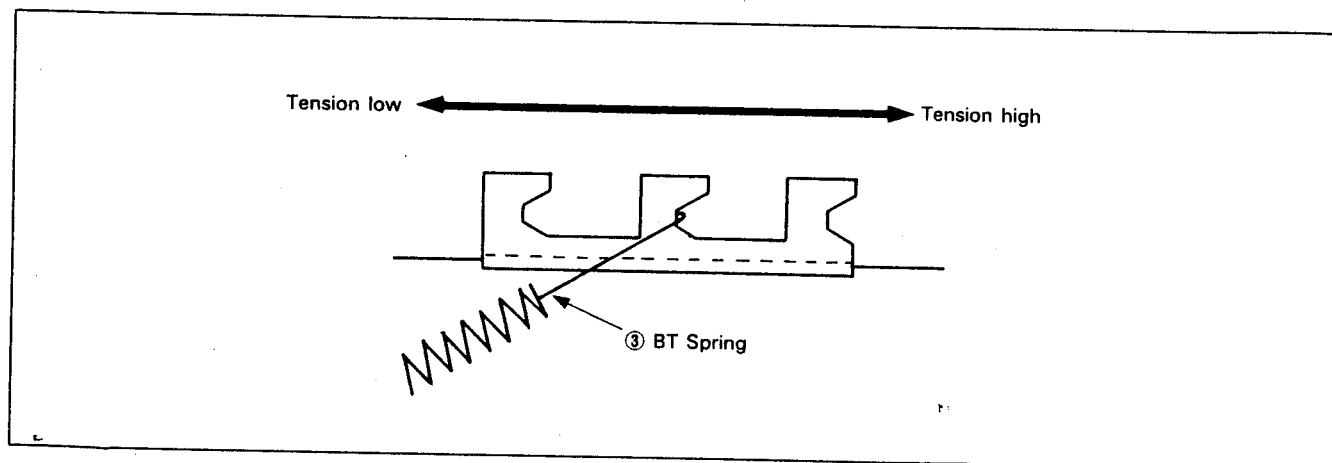

Fig. 2-35.
- 2) Set a tension measuring reel ①.
- 3) Using a dial tension gauge ②, pull the tape from exit side at 20mm/sec and read the dial.
- 4) If the reading is outside 5~10g range, reposition the hook (See Fig. 2-35).